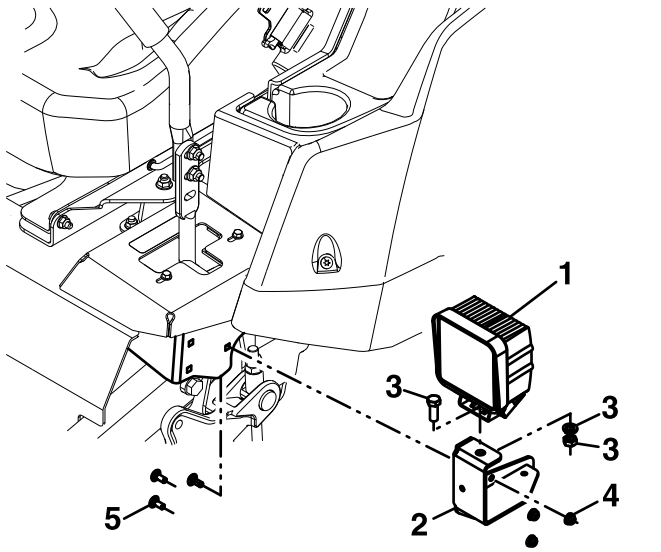

Figure 3
4. Using three 1/4-20 x 5/8 inch carriage bolts and nyloc nuts, install the LH light bracket onto the LH motion control frame bracket as shown in Figure 3.
5. Remove the hardware from the light and install to the LH light bracket as shown in Figure 3.